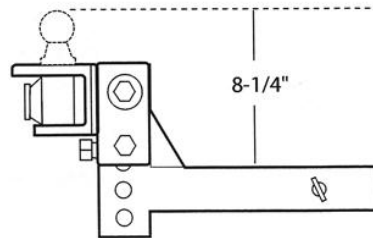

Fig. 2
3. Some installations may require a longer hitch bar ③ . Extended bumper guards, pickup truck "caps", or rear mounted spare tires can limit turn angles unless a longer bar is used. Individual hitch bars ③ are available in various sizes.
4. Insert the hitch bar ③ into the hitch box and install a pull pin ⑥ and gold spring clip ⑨ . Hitch bar ③ may be used in either the up or down position (see Fig. 2).